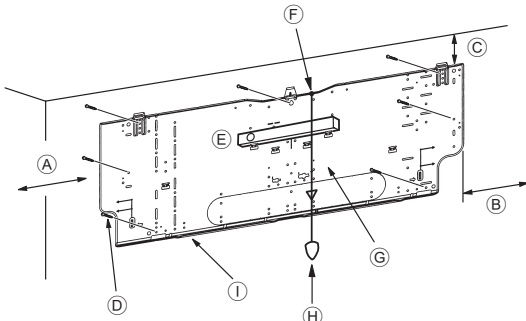
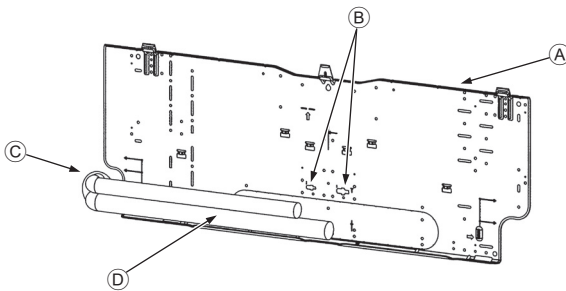

Fig. 3-4
Fig. 3-5
■ PKFY-P-NKMU-E2 (Fig. 3-4)
- Ⓓ Fixing screws (4 × 25) ②
- Ⓘ Mount board ①
3.3. When embedding pipes into the wall (Fig. 3-5)
- Ⓐ Mount board ①